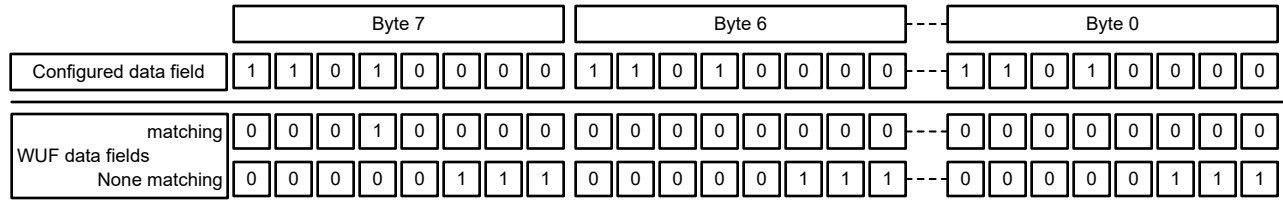

Figure 8-39. Data Field Validation for WUF Example
When the Data mask is enabled using the data mask bit, the data of the received frame must match the configured Data where at least one logic high (1) bit within the data field of the received frame matches a logic high (1) of the data field within the configured data. The relevant bit positions are determined by the configured Data in 8'h39 through 8'h40 and enabled by Data mask enable in 8'h38[0]. An example of a matching and non-matching Data is shown in Figure 8-39